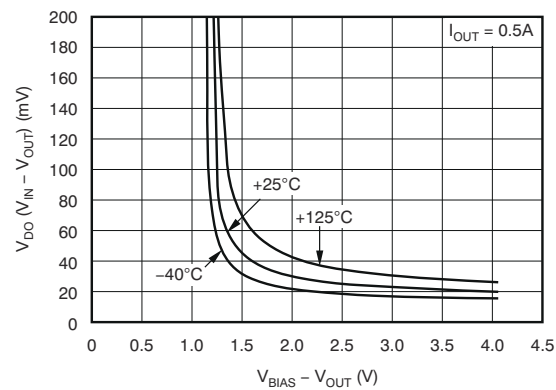

Figure 5-29. Dropout Voltage vs ($V_{BIAS} - V_{OUT}$) and Temperature (T_J)
- (1) Adjustable devices tested at 0.8 V; resistor tolerance is not taken into account.
- (2) Dropout is defined as the voltage from V_{IN} to V_{OUT} when V_{OUT} is 3% below nominal.
- (3) 1.62 V is a test condition of this device and can be adjusted by referring to Figure 5-29.